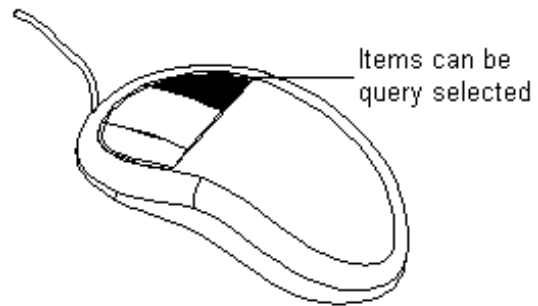

Figure 1-26 Functions of the right mouse button
2. Figure 1-26 shows the functions of the right mouse button. The right mouse button is used to invoke the shortcut menus and to query select the items. When you bring the cursor on an item, it is highlighted in cyan color. Now, if you hold the right mouse button, a shortcut menu is displayed. Choose the **Pick From List** option from the shortcut menu; the **Pick From List** dialog box will be displayed. You can make selections from this dialog box.